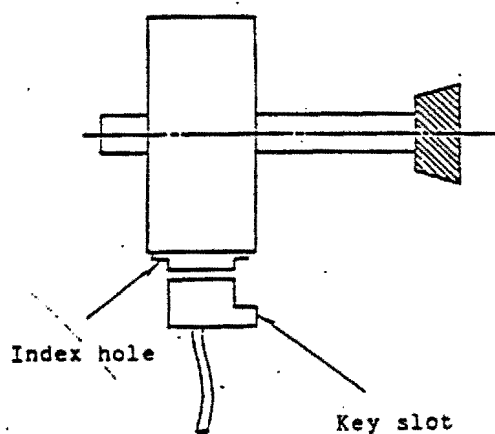

Fig. 6.7
- (2) Unless the directions in which the magnet and detector point tally, as shown in Fig. 6.7, a high level of vibration results at both ends of the magnet and orientation is disabled.